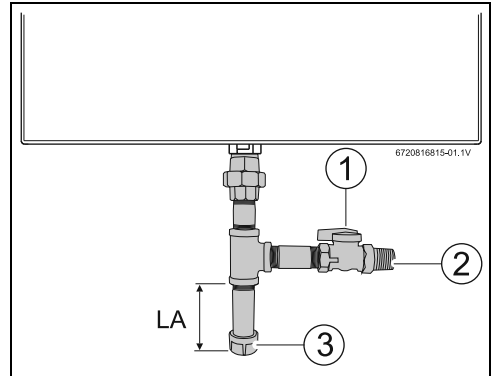

Fig. 10 Gas connection
- ▶ National Fuel Gas Code requires that a sediment trap (drip leg) be installed on gas appliances not so equipped. The drip leg must be accessible and not subject to freezing conditions. Install in accordance with the recommendations of the serving gas supplier, see fig. 10.